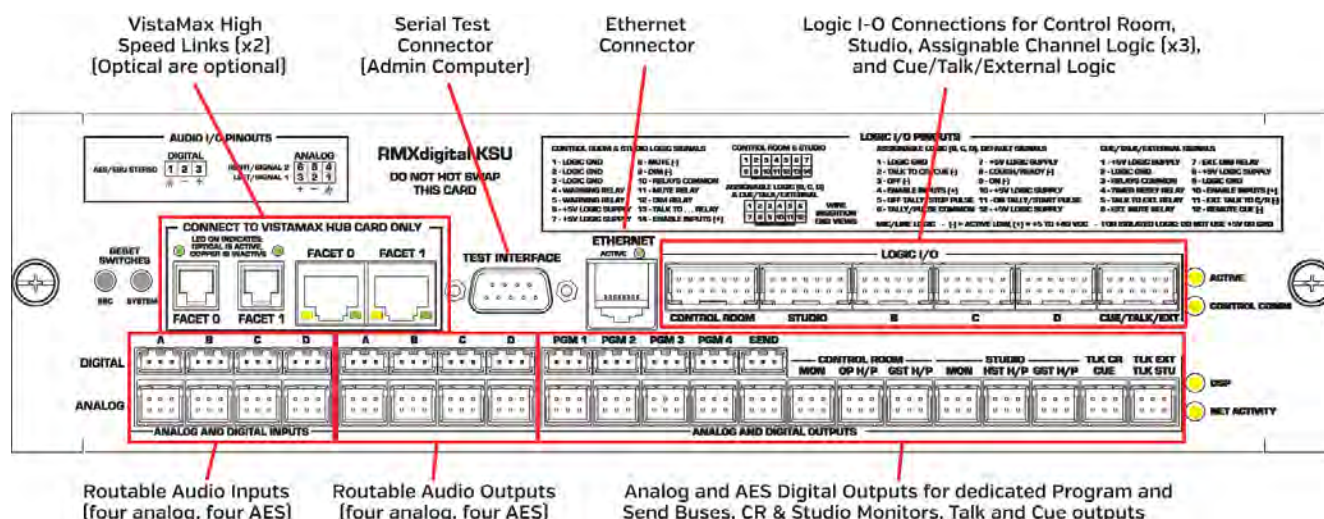

Figure 2-24. KSU Card Connections
- The optional “Optical” card (99-2672-2) has two optical Facet connections in addition to the two standard copper Facet connections (shown in Figure 2-24)